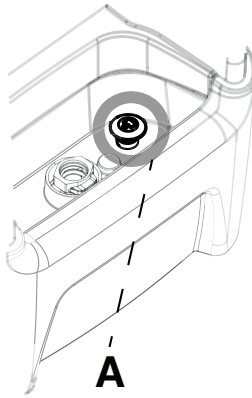

Figure 25 – Drain plug
3. To drain the controller, pull up on the controller drain plug (A) to open the drain (Figure 25). Leave the drain open.